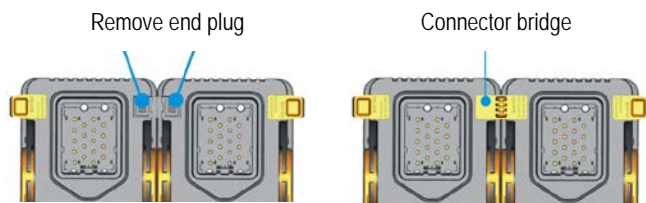

Figure 7
2. Remove the two end plugs on the sides of the ANTARES connection modules that are facing each other (Fig. 7). Space approx. 30 mm.
6. Insert the plug bridge into the ANTARES connection modules female connector strips (Fig. 7) that are beside each other.